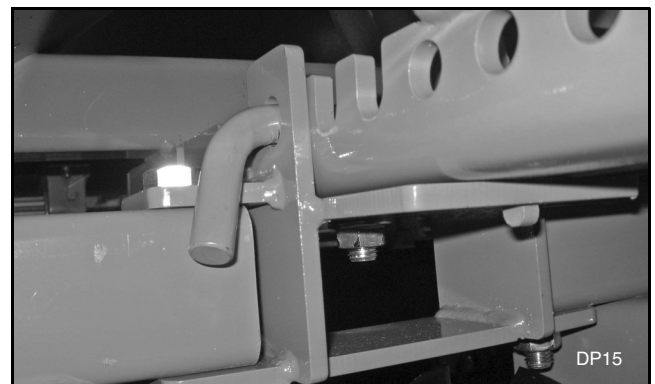

Figure 12. Bent Pin and Lock Assembly - Disc Slide
3. Remove bent pin and hair pin clip from the front of seeder (see Figure 12).
3. Remove bent pin and hair pin clip from front of seeder (see Figure 12).